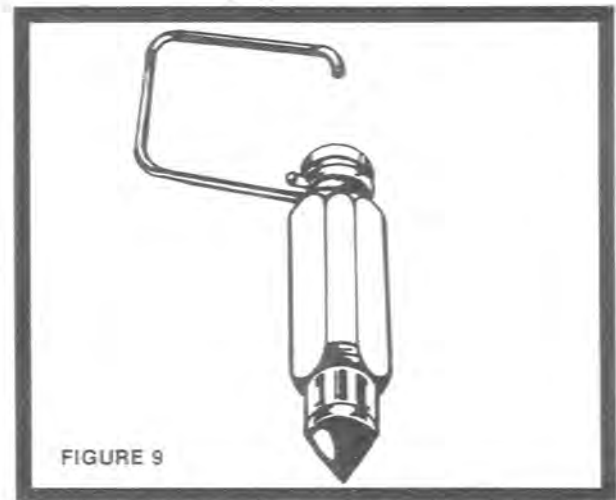

FIGURE 9
- 57) To install the float, place the throttle body with the mounting flange down and install the proper throttle body to bowl gasket (8). If your carburetor requires the 95-57 vent screen, make certain that it is installed into the gasket so that it protrudes into the hole in the throttle body.
- 58) Place the float valve retractor clip 29-194 (6) on the float valve (7) as illustrated in Figure 9. Place the float valve and retractor clip on the 30-766 float (5) as illustrated in Figure 10.